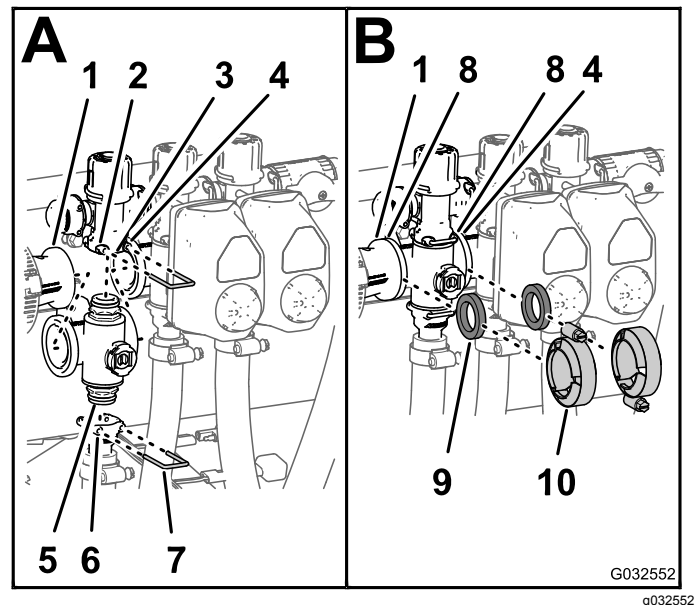

Figure 110
1. Insert the upper end-cap fitting of the manifold valve into the bypass fitting (A of Figure 110).
2. Secure the end-cap fitting to the bypass fitting by inserting a retainer into the socket of the bypass fitting (A of Figure 110).
3. Assemble the outlet fitting onto the lower end-cap fitting of the manifold valve (A of Figure 110).
4. Secure the end-cap fitting to the outlet fitting by inserting a retainer into the socket of the outlet fitting (A of Figure 110).
5. Align a gasket between the flanges of the reducer coupling and the section-valve manifold (B of Figure 110).
6. Assemble the reducer coupling, gasket, and section-valve manifold with a clamp tightened hand tight (B of Figure 110).
7. If installing the 2 left section valves, align a gasket between the flanges of the 2 adjacent section-valve manifolds (B of Figure 110).
8. Assemble the 2 adjacent section-valve manifolds and gasket with a clamp tightened hand-tight (B of Figure 110).